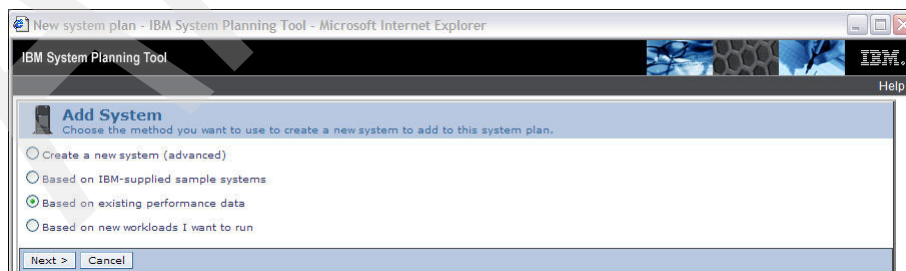

Figure B-25 Select WLE - Based on existing performance data
1. Click the **Based on existing performance data** radio button and click **Next** (Figure B-25).